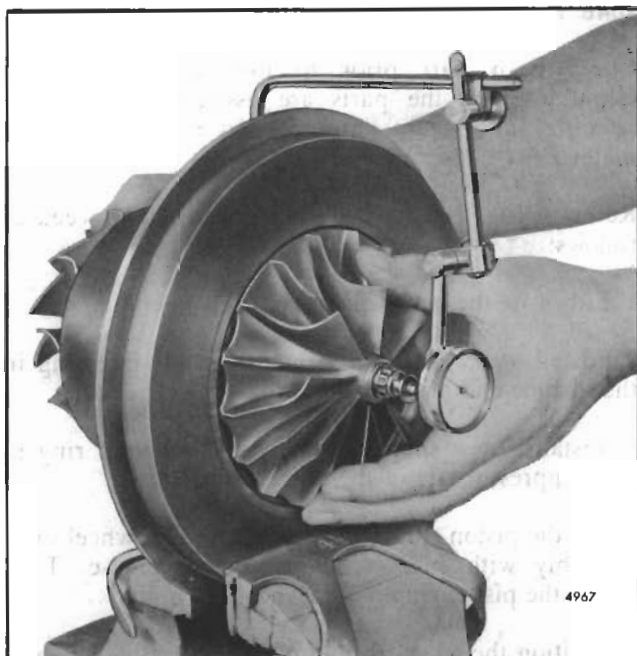

Fig. 10 - Checking Bearing Axial End Play
- Clamp the center housing assembly in a bench vise equipped with soft jaws as shown in Fig. 10.
- Fasten the dial indicator and magnetic base (J 7872-2) to the center housing so that the indicator tip rests on the end of the rotating shaft on the compressor side (Fig. 10).
18. Position the turbine housing (6) as marked at disassembly against the center housing (27) and secure it in place.
- Secure the T18A40 and T18A90 turbine with four clamps (5), four new lockplates (4) and eight bolts (3). Tighten the bolts to 100-110 **lb-in** (11-12 Nm) torque and bend the tabs of the lockplates up against the bolts.
- Secure the TV81 turbine housing with the "V" band coupling (28). Tighten the toggle nut as follows:
- a. Clamp the center housing assembly in a bench vise equipped with soft jaws as shown in Fig. 10.
- b. Fasten the dial indicator and magnetic base (J 7872-2) to the center housing so that the indicator tip rests on the end of the rotating shaft on the compressor side (Fig. 10).